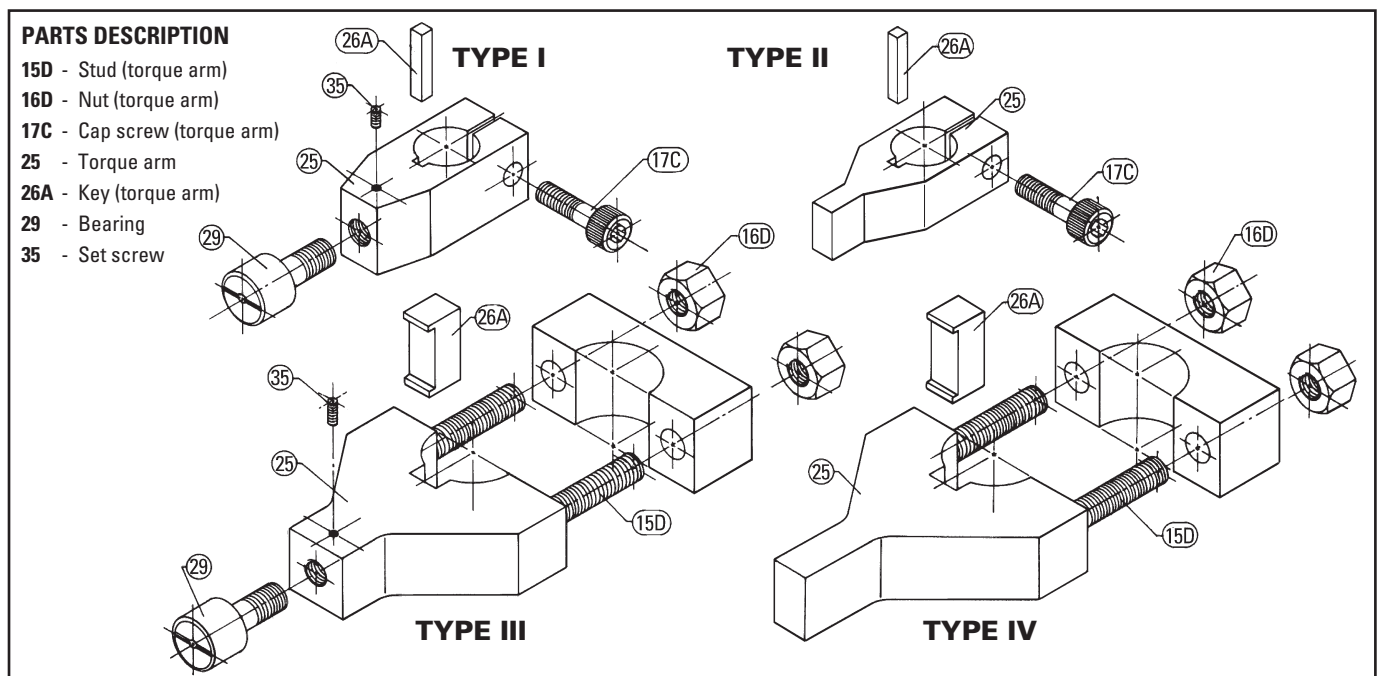

Figure 7.5A Torque arm 4 types
1. Remove body/cover nuts (16).
2. Once all the nuts are removed, the cover (50) and gasket can be lifted from the valve body as shown in Fig. 7.5A.
3. Lift the disc (6) and spring option (46) from the valve body.